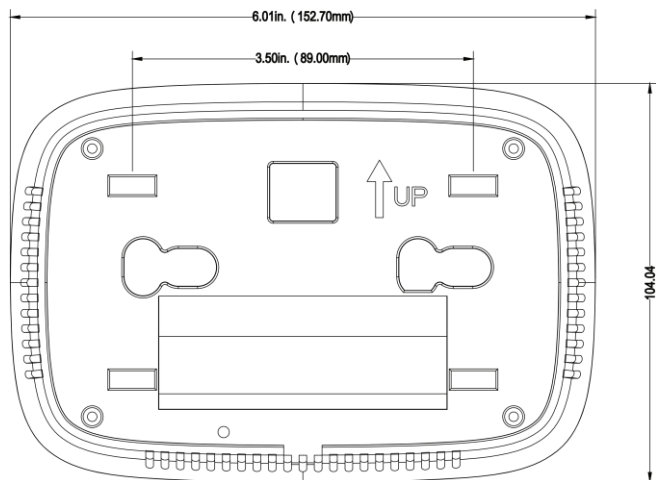

Fig. 2. Thermostat back case dimensions in inches. (mm).
2. MRCOOL® back case: see Fig. 2.